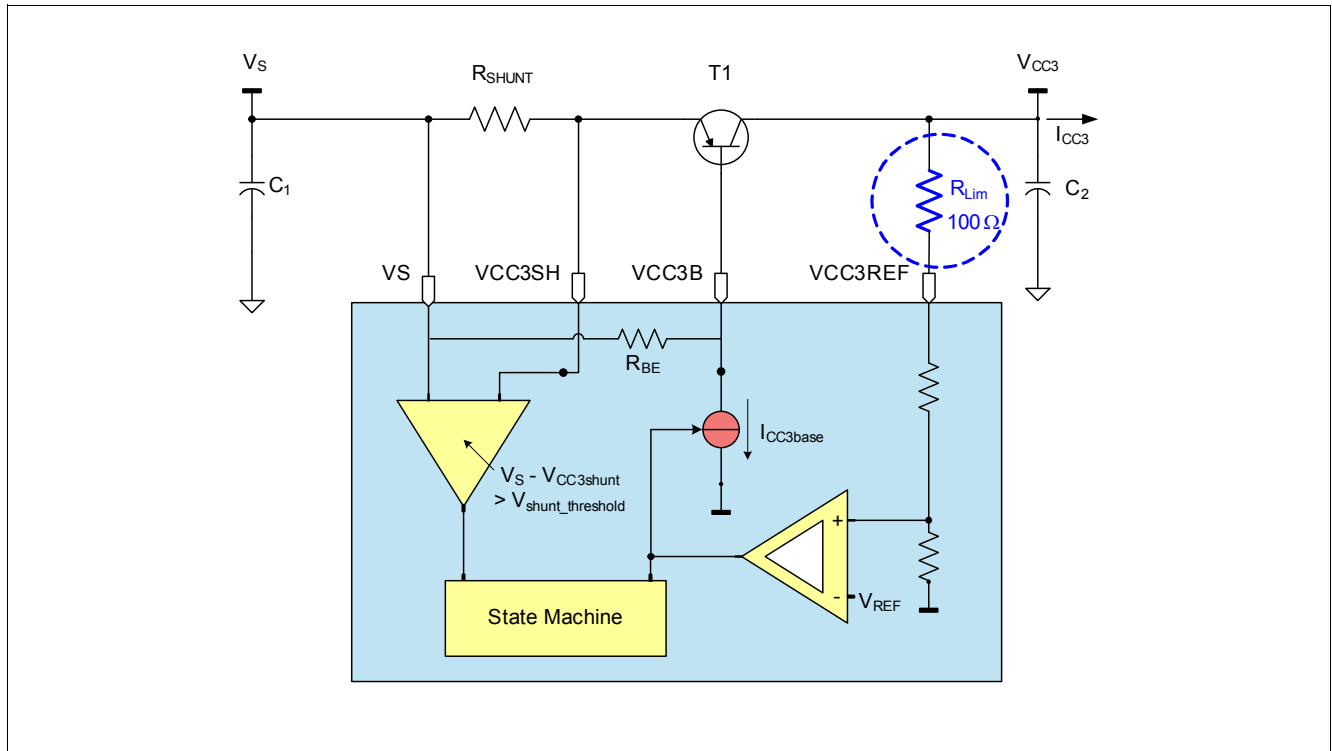

Figure 24 Protecting the VCC3 against inductive short circuits when configured as an independent voltage regulator for off-board supply
*Note: If the VCC3 output voltage is supplying external off-board loads, the application must consider the series resonance circuit built by cable inductance and decoupling capacitor at the load. Sufficient damping must be provided (e.g. a 100Ohm resistor between the PNP collector and VCC3REF with 10uF capacitor on collector - see also **Figure 24**).*